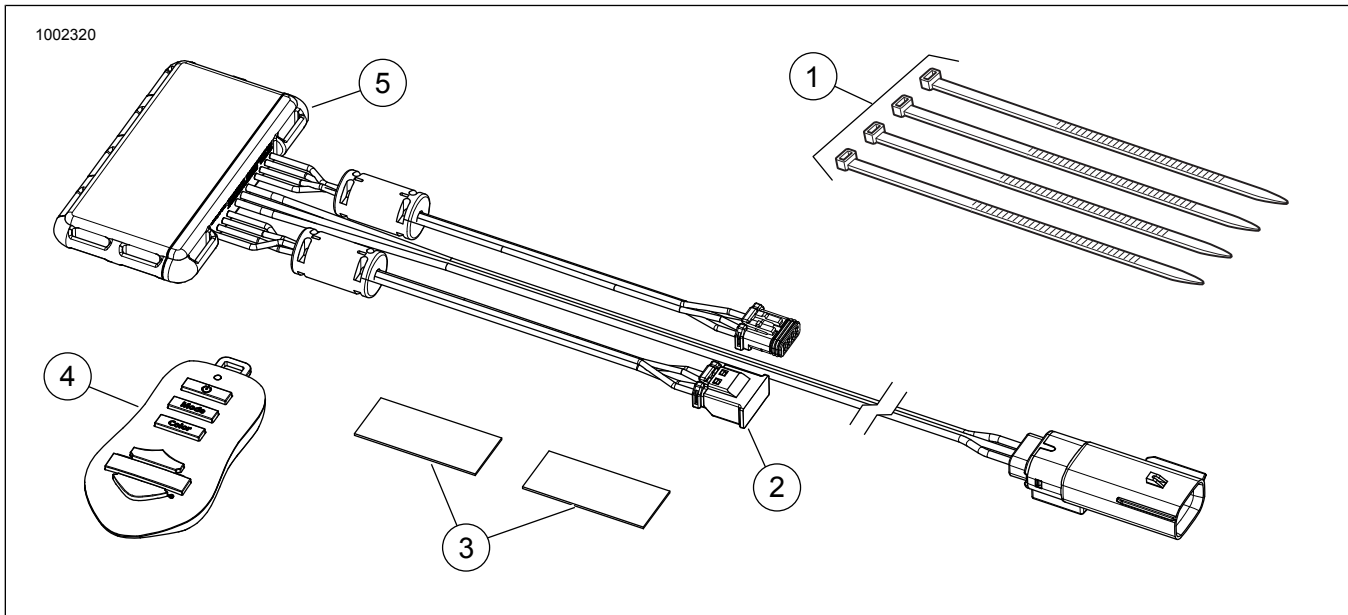

Figure 2. Service Parts, Spectra Glo Controller Kit
Figure 2 and Table 1.
5. Figure 2 Choose a suitable location for mounting the controller (5) under the seat or behind the left side cover. Use two-sided tape (3) provided in kit, or cable straps (1).